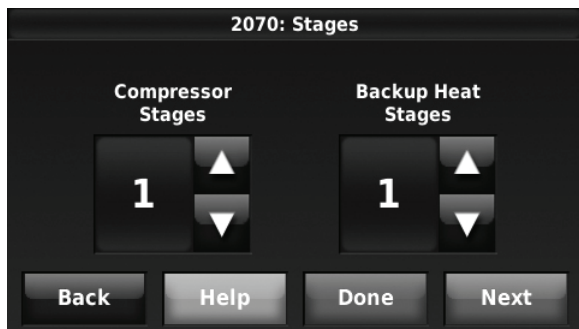

Fig. 207.
6. Select the number of Compressor and Backup Heat Stages. See Fig. 207.